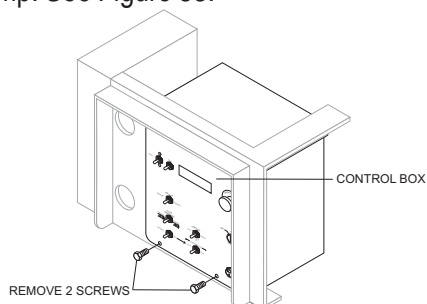

Figure 33. Removing Screws from Control Panel
1. Remove the two screws on the digital control panel of the pump. See Figure 33.